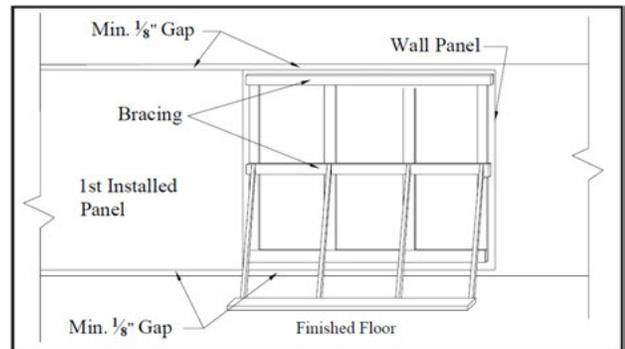

Figure 30C
- Brace panel as necessary until adhesive has set. (Figure 30C)